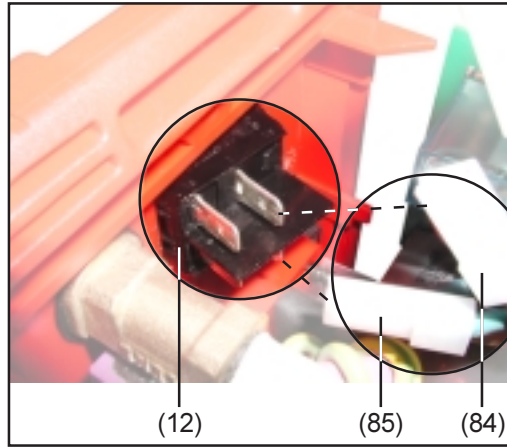

Fig. 13
- On the mains switch (12), plug on the mains leads for the mains cable (Fig. 13)
- L - brown (84) to 1
- N - blue (85) to 2